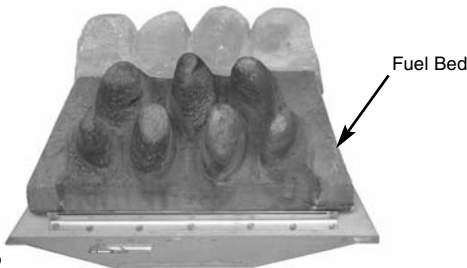

Fig. 52
2. Place the main fuel bed on to the middle section of the metal burner tray. It is important that the front edge of the fuel bed is located behind the burner strip (Fig. 52).